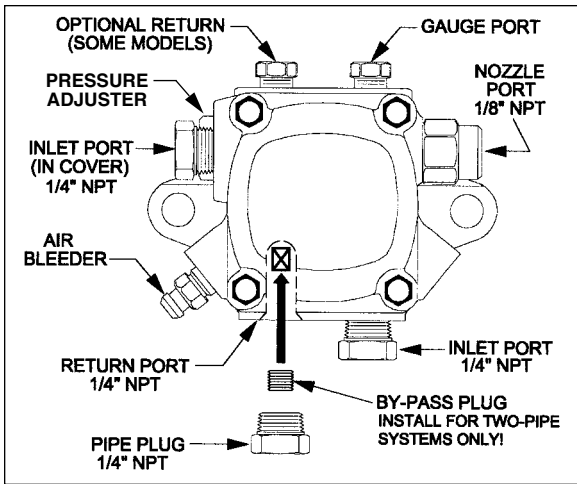
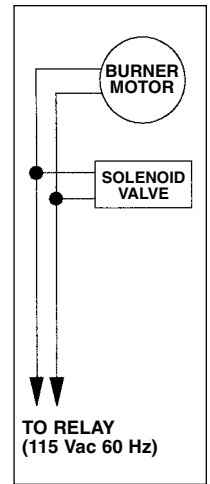
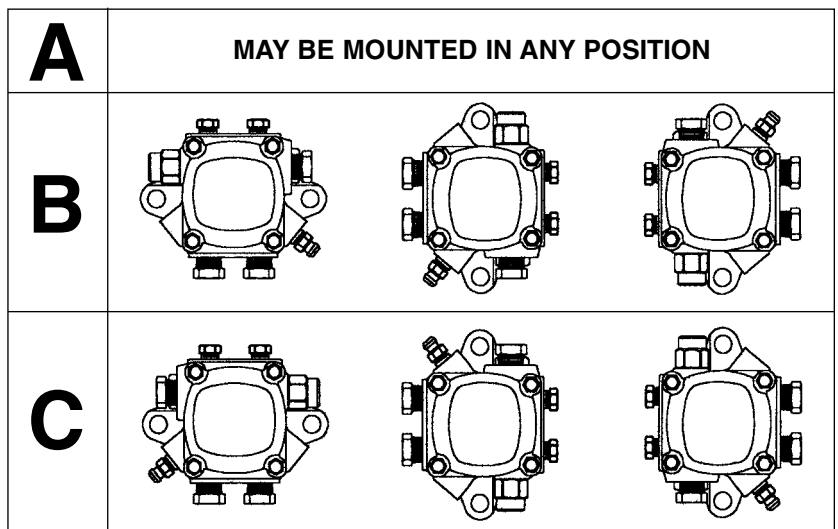

Figure 1 - By-pass plug location for Model A, B fuel unit with nozzle port left\*.
Figure 3
Figure 7 - Allowable mounting positions
Carefully disconnect all oil lines (and wires, if solenoid valve equipped) attached to the fuel unit to be replaced taking care to catch any fuel oil released. Remove the fuel unit from the burner, drain it into a suitable container, and remove any serviceable fittings that will be used on the replacement fuel unit. If it is a two-pipe system, remove the by-pass plug from the defective fuel unit (see Figure 1 or 2) and save it for installation in the replacement fuel unit. Plug all open ports with pipe plugs to prevent any remaining oil from leaking out of the defective fuel unit.
Remove the pipe plugs from the ports to be used on the replacement fuel unit. If it is a two-pipe system, install the by-pass plug removed from the defective fuel unit (see Figure 1 or 2). Install the rest of the pipe fittings using a good quality non-hardening pipe compound (SH No. F3-61). If oil has drained from the fuel unit during installation of the fittings, refill it using the inlet port with clean fuel oil or lubricating oil. Mount the fuel unit on the burner in accordance with the allowable mounting positions indicated (see Table 1. and Figure 7). Connect all the oil lines (and wires, if solenoid valve equipped - see Figure 3).
**One-Pipe Systems** - Start the burner. Open the air bleeder (see Figure 1 or 2) CCW and catch oil flow in a suitable container (TURN-A-KIT® bleed wrench SH No. P131-11, recommended). Continue bleeding until air free oil flows from the air bleeder. Close the air bleeder and stop burner.
Install a 0-300 P.S.I. pressure gauge (SH No. P125-2) in the gauge port (gauge connector SH No. P127-10, recommended). See Figure 1 or 2 for gauge port location. **Do not use the air bleeder port for checking pressure! (exception: use the air bleeder port on models with built-in solenoid valve)** Start the burner. Observe the pressure gauge and set the fuel unit for the desired pressure using the pressure adjuster (see Figure 1 or 2). **Note: Set pressure only within the pressure range shown in Table 1 for that fuel unit.** Stop the burner after setting the pressure and remove the pressure gauge. Re-install the pipe plug in the gauge port.